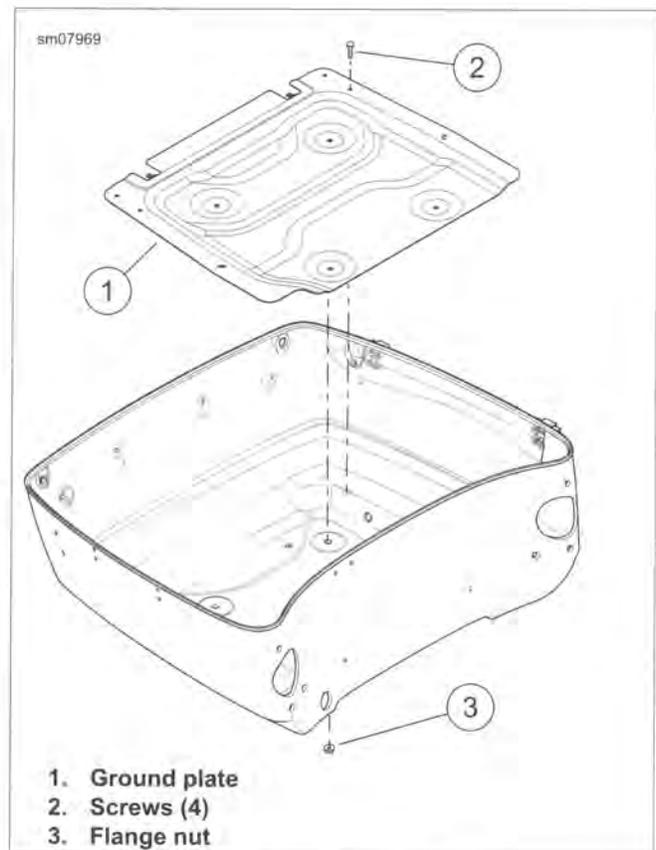

Figure 2-127. Ground Plate
See Figure 2-127. Screws (2) secure both the ground plate and marker lamps/trim strips.
- Remove screws (2).
- See Figure 2-127. Install ground plate (1). Install four flange nuts (3). Tighten to 60-72 in-lbs (6.8-8.1 Nm).